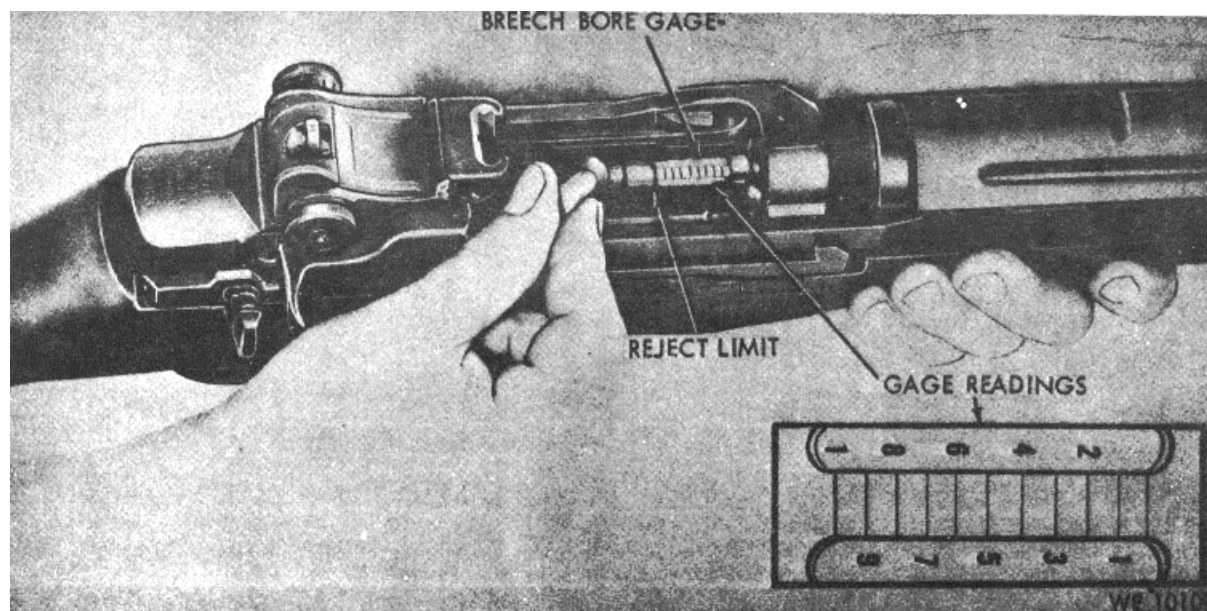

Figure 8-1. Gaging of breechbore.
a. Barrel and Receiver. Use breech bore gage (fig 8-1) to check wear. Wear must not exceed 0.310 inch for serviceability.